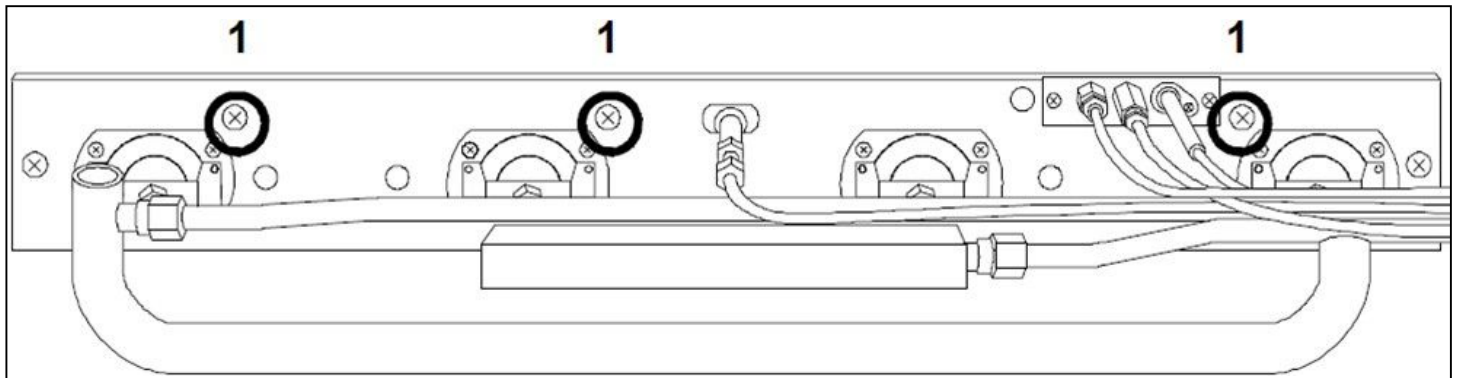

FIG.17
- Unscrew the 3 fixing screws of the burner supports (FIG.17-Ref.1);